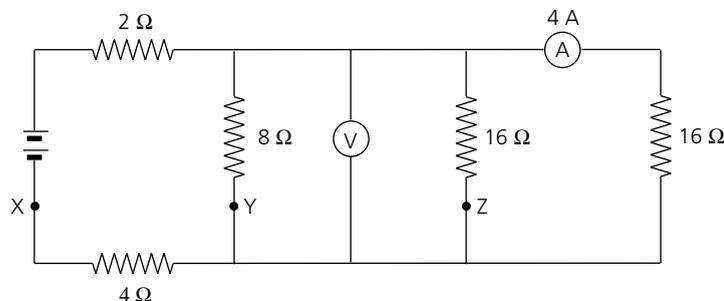

Figure 22.30
- **25** In the circuit of Figure 22.30, calculate the following: